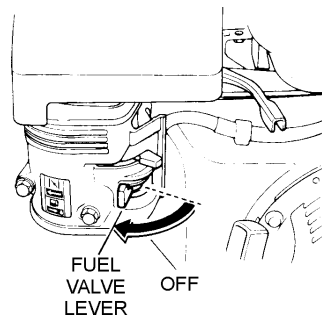

Figure 19. Fuel Valve Lever (OFF)
- Place the **fuel shut-off lever** (Figure 19) in the OFF position.